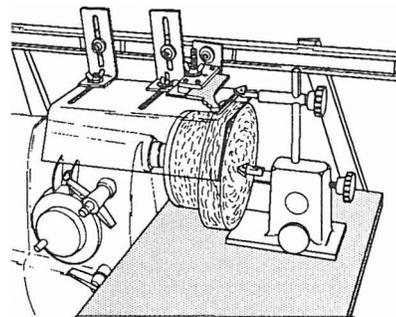

Fig. D-3
**11. Mount the template.** Insert the template between clamp (5) and bracket (9). The end of the template should butt up squarely against the spacer (6). Align the template hole with the centering hole in the template clamp (5). Insert a 1/4" dowel through both holes to align the template exactly. Use the 5/32" Allen wrench to tighten the two setscrews (4), clamping in the template securely.
**12. Loosen the screw (11),** then move the assembly until the end line marked on the template is directly over the end of the workpiece. With the top of the template support bracket parallel to the channel, tighten the screw (11). See Fig. D-3.